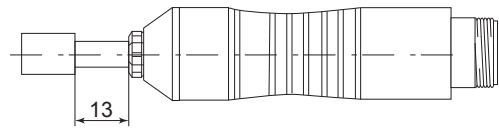

Fig. 1
- Do not exceed 13mm of overhang for mounted grindstones as shown in Fig. 1.